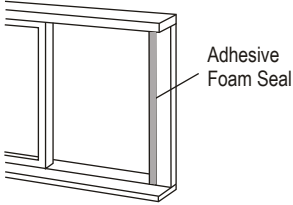

Fig. 9
1. Cut 1 piece of Adhesive Foam Seal to the proper length, open the window and attach the foam to the side of the window frame (Fig. 9)